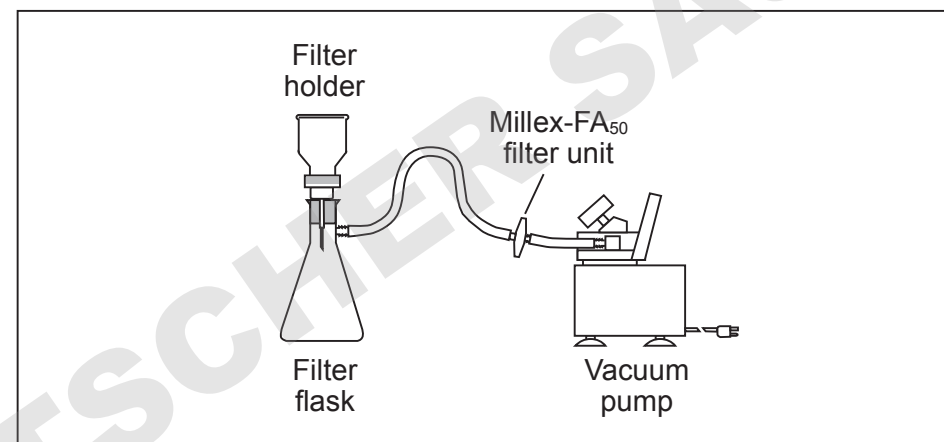

Figure 1. Proper use of Millex-FA50 filter
**CAUTION:** Always use the supplied hydrophobic vent filter or a vacuum-flask water trap in conjunction with the pump (see Figures 1 and 2). Never pump or draw liquids through the pump, as this will damage it.
- Always use the Millex-FA50 vent filter and 1/4 inch silicone tubing included with the pump when applying vacuum. This will prevent liquids or vapors from entering the pump. A properly attached Millex-FA50 vent filter is illustrated in Figure 1.
**CAUTION:** During vacuum filtration, use the supplied Millex-FA50 hydrophobic vent filter, to prevent excessive amounts of liquids or mist from entering the pump (figure 1). For maximum protection, use a vacuum-flask water trap (figure 2).